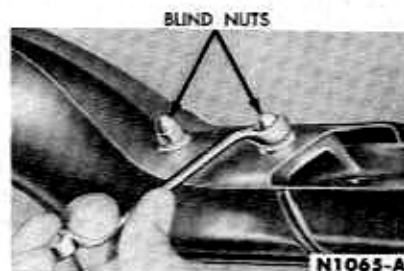

FIG. 1—Header Bow Adjustment
4. Loosen the blind nuts (Fig. 1), move the bow fore or aft to get proper alignment at the header, and tighten the nuts.